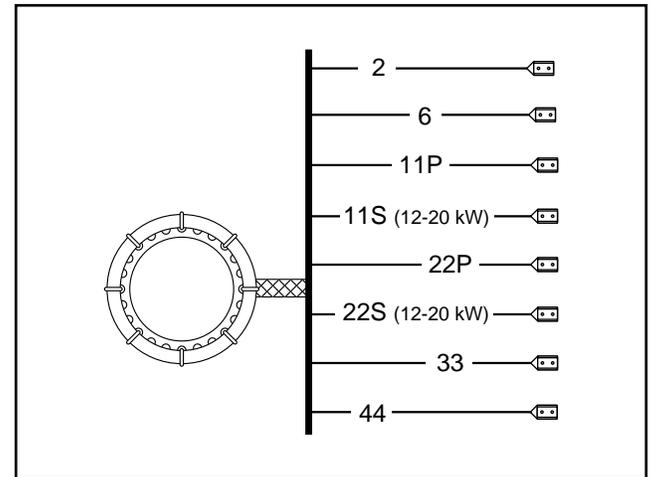

Figure 4. Stator Assembly Leads
The stator can houses and retains (a) dual AC power windings, and (b) excitation winding. A total of six (6) or eight (8) stator leads are brought out of the stator can as shown in Figure 4.